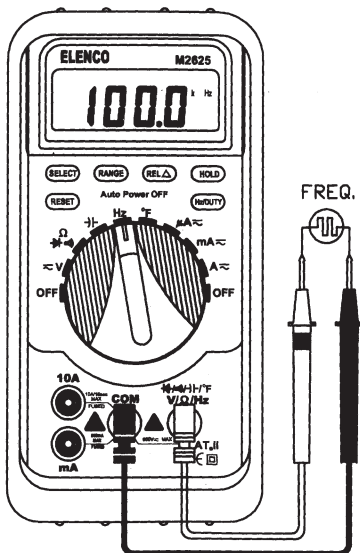

Figure 14. Frequency Measurement
1. Turn on the meter, then set up the meter as shown in Figure 14.